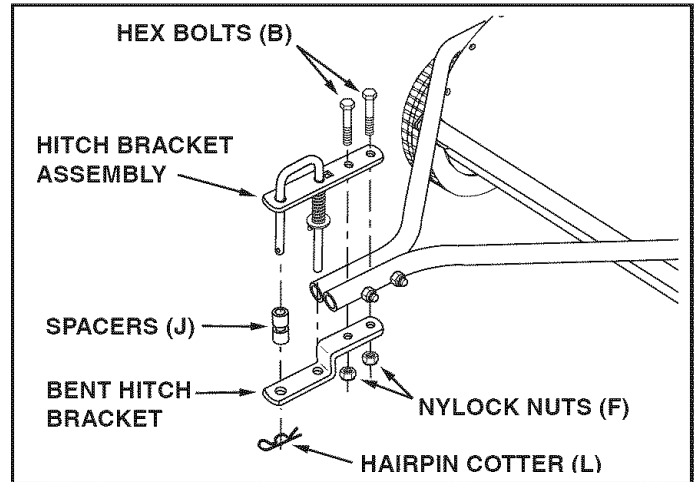

FIGURE 6
- If the tractor hitch is less than 10" above the ground, assemble the hitch brackets as shown in figure 6. Insert two hex bolts (B) through the brackets, with the rear hex bolt between the cross bolts in the hitch tubes. Secure the hex bolts (B) with two nylock nuts (F). **Do not tighten yet.** See figure 6.
- Assemble the two spacers (J) onto the hitch pin and secure the pin with the hairpin cotter (L). See figure 6.